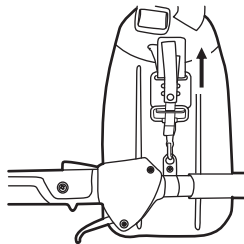

Fig. 16
4. In case of emergency, pull the rope of the quick release mechanism. The metal locking bar will be released from the securing clip automatically because of the weight of the machine, and the machine will drop away from you. (See Fig. 16)